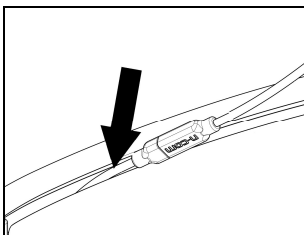

Fig. 21
- Position the wiring and the connectors behind the cheek pad lining, lifting it with the help of a flat head tool (Fig. 21).